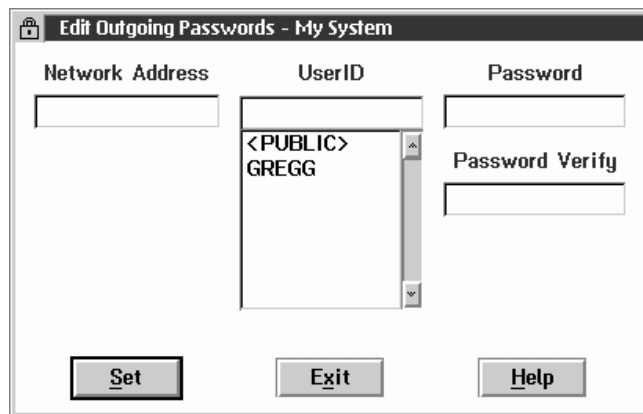

Figure 82. The Edit Outgoing Passwords window.
3. Select **Add**. This opens the Edit Outgoing Passwords window (see Figure 82 on page 246).